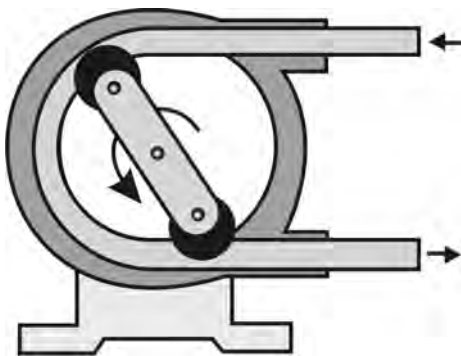

FIGURE 5.30 Peristaltic pump.
- Peristaltic pump is positive displacement pump with the fluid not coming in contact with pump parts. It involves movement of the fluid through a flexible tube, which is alternately squeezed and released synonymous to suction and discharge of positive displacement pumps. Figure 5.30 illustrates working of a peristaltic pump.